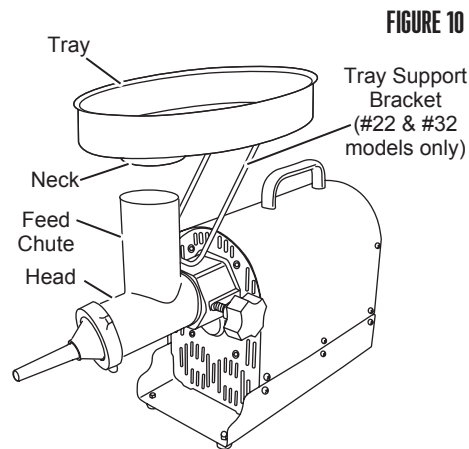

FIGURE 10
7. Insert the neck of the Tray into the Feed Chute (**FIGURE 10**). Plug into electrical outlet.
8. NEVER operate Grinder without the Tray secured in place (**FIGURE 10**).